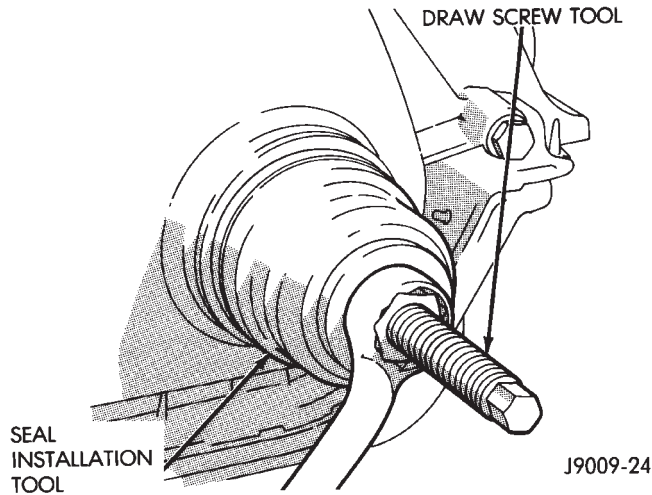

Fig. 58 Timing Case Cover Oil Seal Installation
(2) Position the tool and seal over the end of the crankshaft and insert a draw screw tool into Seal Installation Tool 6139 (Fig. 58). Tighten the nut against the tool until it contacts the cover.